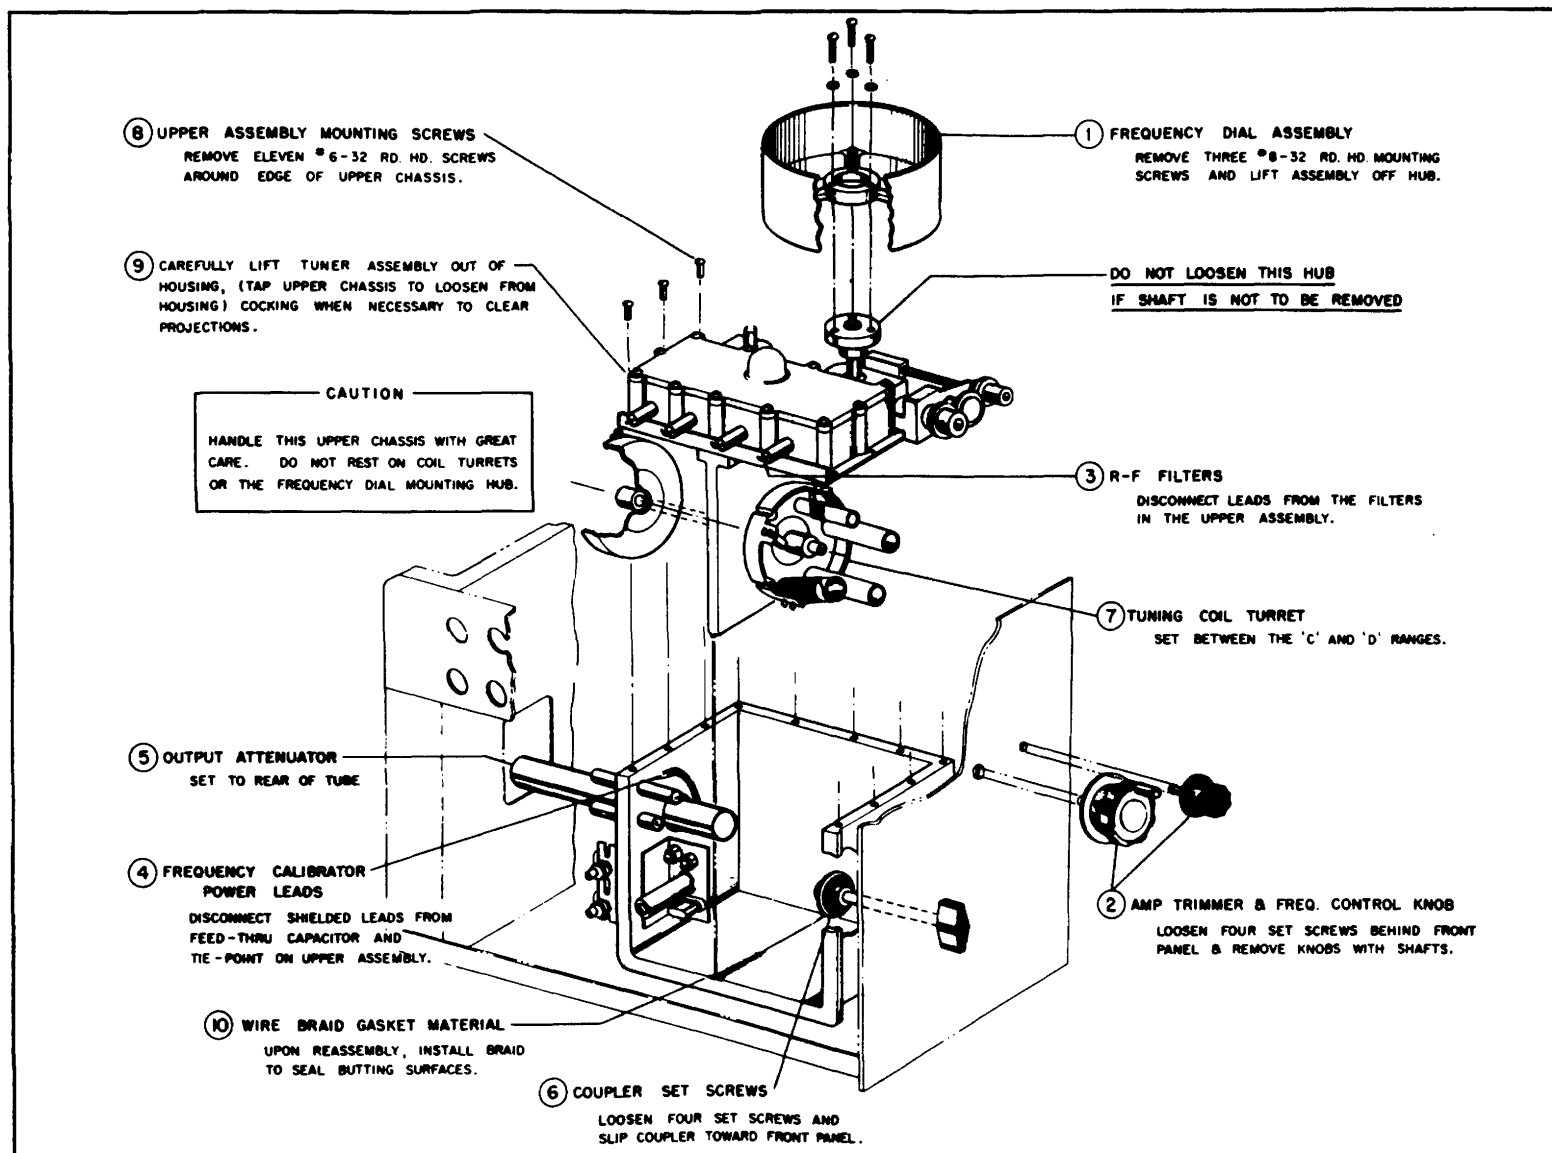

Figure 6-6. Diagram Showing Removal of Frequency Drive Assembly from R-F Generator Housing
6-23. To replace a coil in the r-f amplifier coil turret or to replace the r-f oscillator coil turret, the entire top portion of the r-f generator assembly must be removed as shown in Figure 6-6. It is possible with care in handling, to remove the top portion of the assembly and reinstall it without loss in accuracy of frequency or output level dial calibration. The removed portion must be handled with great care not to bump or shift the position of any of the coils on the turrets. If it becomes necessary to replace an A, B, or C band oscillator coil, the entire turret assembly must be replaced as these coils are mounted on the turret with a permanent cement. The D and E band coils being self-supported wire coils or loops may be replaced separately. The r-f amplifier coils are mounted by axial screws and each coil may be replaced individually. If an amplifier coil is replaced, it is very important that the new coil be installed to be exactly the same distance from the mouth of the attenuator tube as the old one was. The mounting screws allow this distance to be adjusted over a small range and are originally set to obtain an equal amount of power from each coil. If a coil is significantly far from the correct distance, the OUTPUT VOLTS meter calibration for that range may not indicate the power level accurately. To remove the r-f tuning coils from the r-f generator assembly, proceed as follows:
h. Refer to Figure 6-6 and remove the eleven 6-32 round-head screws that fasten the top assembly to the generator housing. The top plate is indexed by two pins to the bottom portion of the housing. These pins may be tight and a LIGHT tap or pry may be required to separate the top plate from the housing. Do not jar the top assembly as the tuning capacitor alignment may be upset with a loss in frequency dial calibration accuracy and resetability. The index pins may remain attached to either the top plate or the housing when the top assembly is removed.